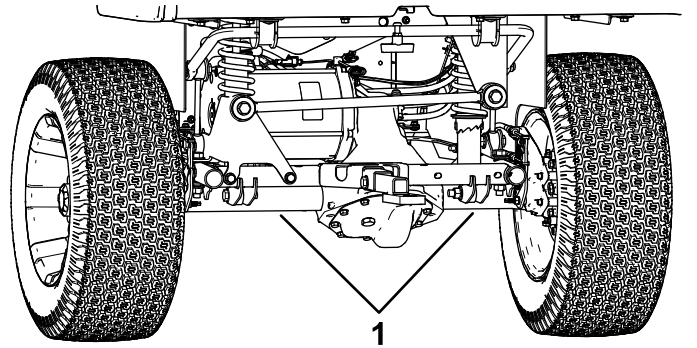

Figure 29
- The lifting point at the rear of the machine is located under the axle tubes (Figure 29).